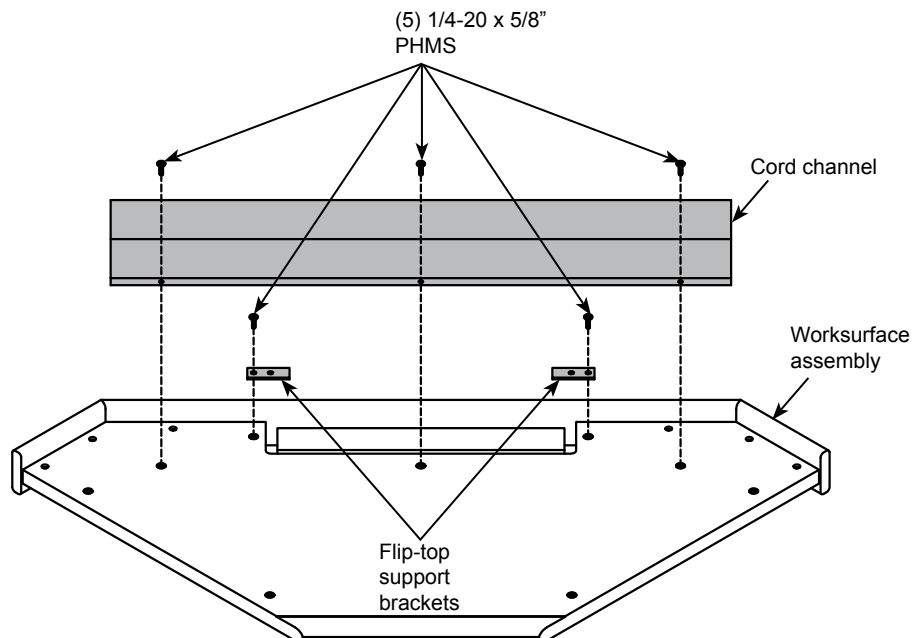

Figure 1
2. Attach the two Flip-top support brackets and Cord Channel with 1/4-20 x 5/8" PHM screws as shown in **Figure 1**.